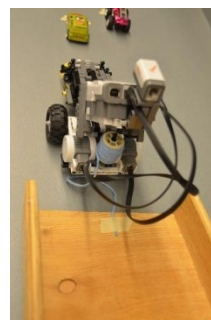

Figure 4
1. *Staff:* Places spool of yarn on the back of the robot. Tapes the end to the bottom of the ramp. See Figure 4